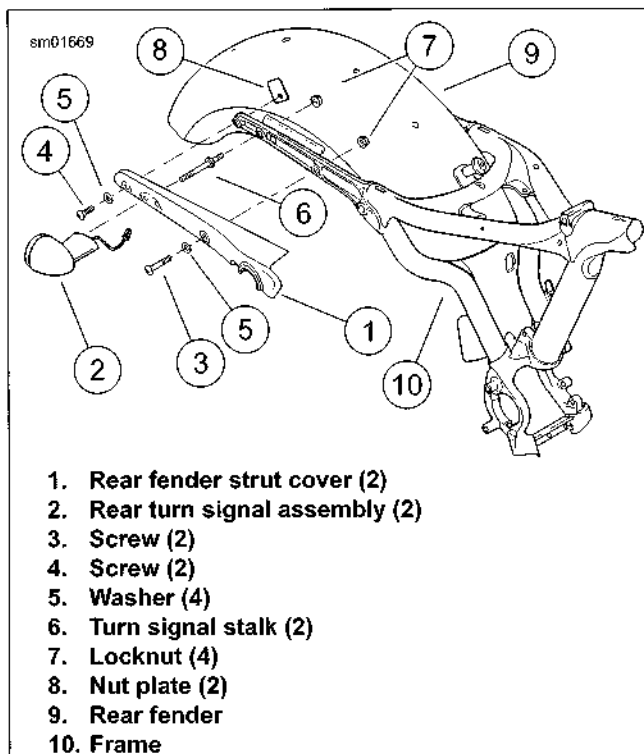

Figure 6-70. Rear Fender Mounting Components (typical)
7. See Figure 6-70. Remove screws (3, 4), washers (5), nuts (7) and nut plate (8).
8. Remove rear fender strut covers (1) with attached turn signal assemblies (2) from rear fender struts. Carefully slide wiring through holes.
10. Unscrew and remove turn signal stalk (6) and fender strut cover (1) from each turn signal assembly (2).